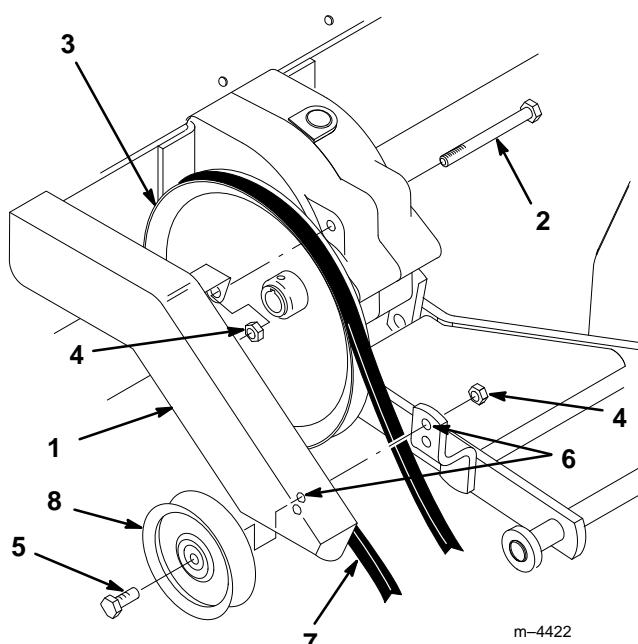

Figure 4
5. Remove the nut from the gearcase bolt located just above the input shaft (Fig. 4). The belt guard mounts to this bolt.
8. Install the idler pulley on the 3/8-16 x 2" (51 mm) bolt so that the extended hub of the pulley is toward the tiller lift frame. Route the belt under the idler pulley, and insert the bolt through the upper belt guard hole and upper hole in the tiller lift frame (Fig. 4). Tighten the nut securely.